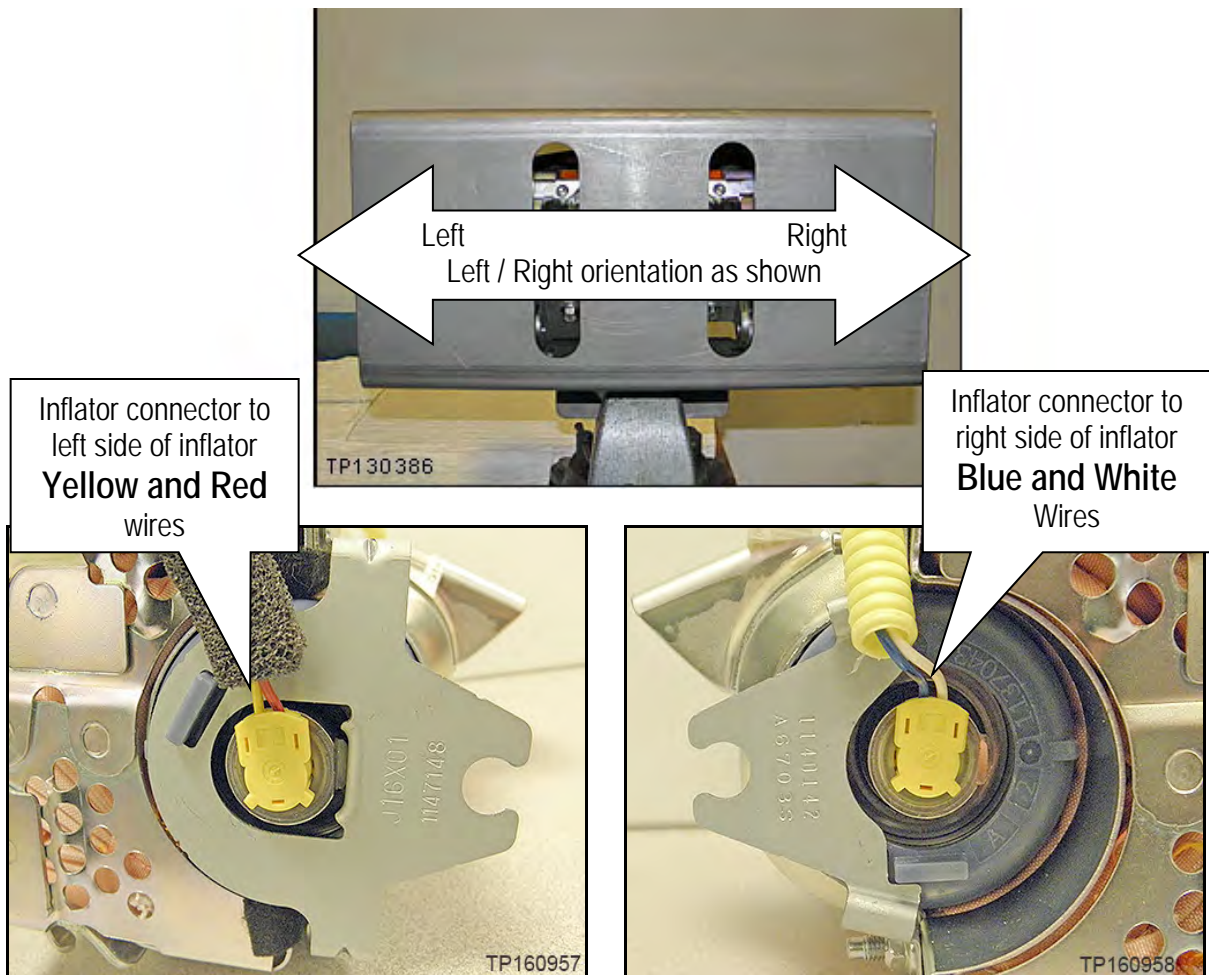

Figure 53
- Make sure to attach the connectors to the correct ends of the inflator (see Figure 53).
- Refer to Figures 53, 54, and 55.